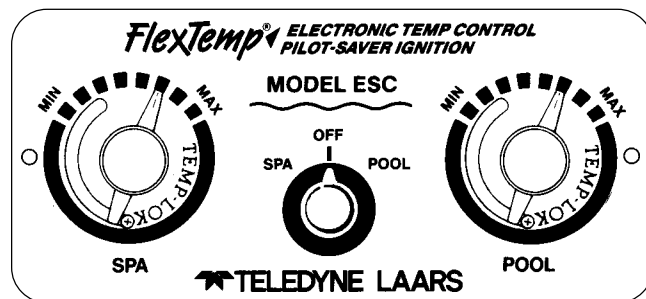

Figure 14. ESC Temperature Controls.
1. Turn the control panel rotary switch to OFF (see Figure 14).
2. Set the rotary switch on the temperature control panel (see Figure 14) to OFF.
The temperature control (see Figure 14) is calibrated at the factory and covers a range from approximately 70 to 104°F (21 to 40°C). Use an accurate pool thermometer to determine the best water temperature for your uses.
The ESC heater has dual temperature controls, which allows two different temperature settings, selected by the rotary switch in the middle of the panel. One control can be set for normal use and the other for standby; or one can be set for pool and the other for a spa. Placing the rotary switch in the middle turns off the heater (see Figure 14).